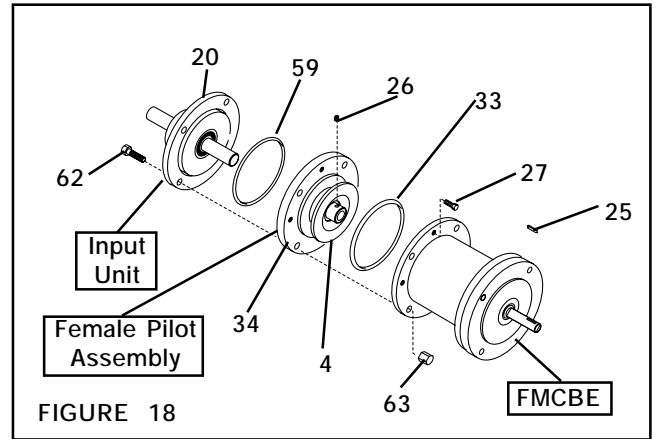

FIGURE 18
1. Remove the eight Hex. Head Cap Screws (Item 27) (See Figure 18).
2. Remove the four Hex. Head Cap Screws (Item 62) and Acorn Nuts (Item 63) (See Figure 18).